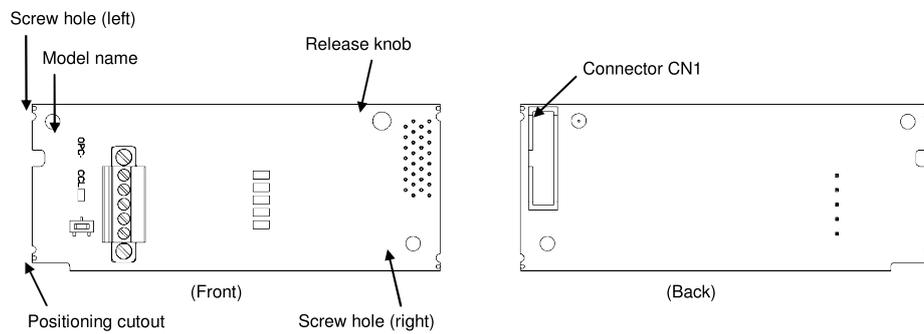

Figure 1.1 Names of Parts on CC-Link Communications Card
- (1) A communications card, two screws (M3 × 8), and the CC-Link Communications Card Instruction Manual (this manual) are contained in the package.
- (2) The communications card is not damaged during transportation--no defective parts, dents or warps.
- (3) The model name "OPC-CCL" is printed on the communications card. (See Figure 1.1.)
- (2) Insert connector CN1 on the back of the communications card (Figure 1.1) into the option connection ports on the inverter's control PCB. Then secure the communications card with the two screws that come with the communications card. (Figure 3.2)
**Note** Check that the positioning cutout (shown in Figure 1.1) is fitted on the tab (ⓐ in Figure 3.1) and connector CN1 is fully inserted (ⓑ in Figure 3.1). Figure 3.2 shows the communications card correctly mounted.
- (3) Perform wiring on the communications card.